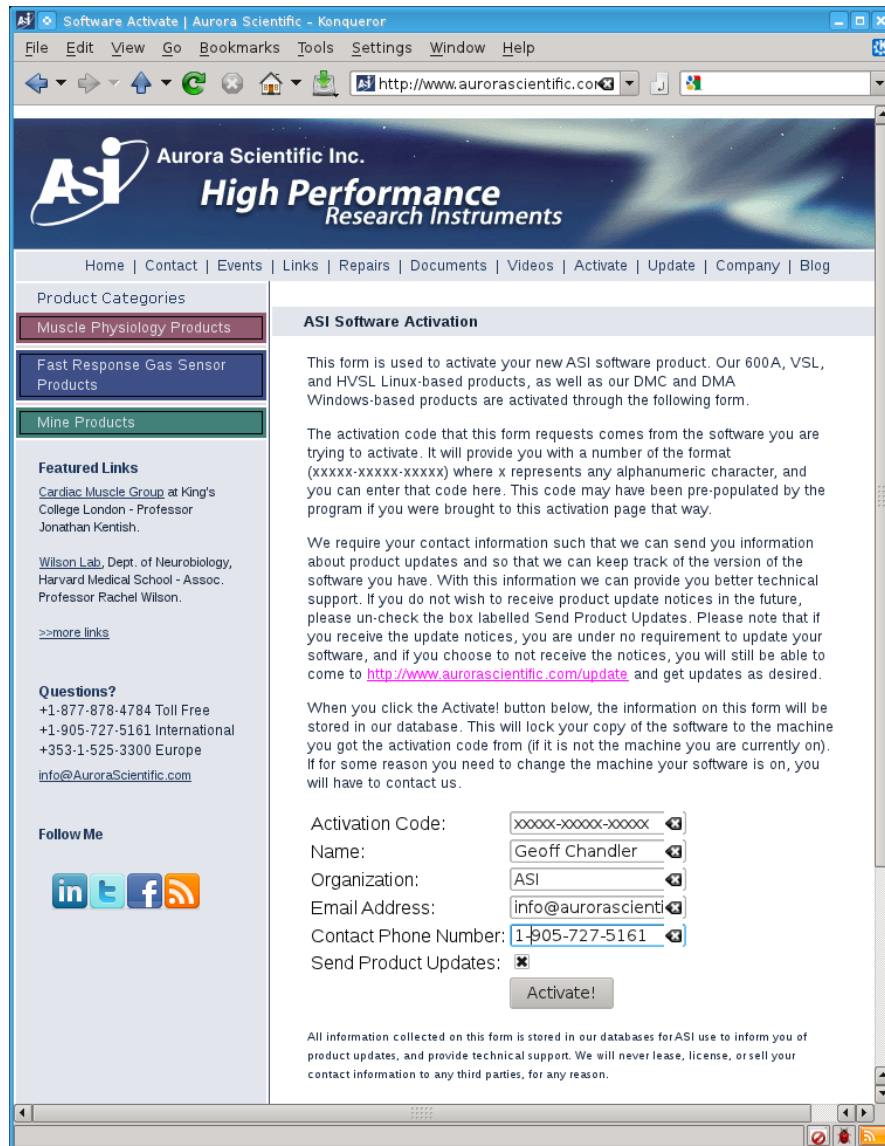

Figure 1 ASI Product Activation Website
| Figure 1 ASI Product Activation Website | 5 |
3. Enter the Activation Code returned by the program, your contact details and then click on the Activate! button. See Figure 1.